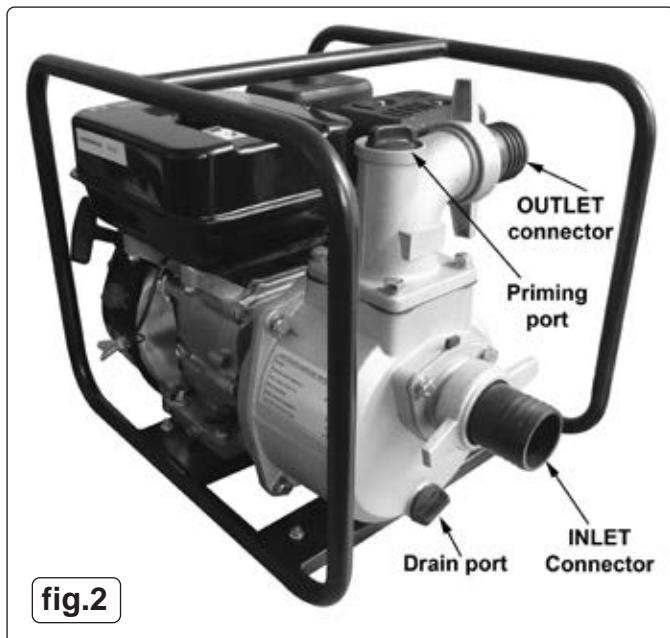

fig.2
##### 4.1 ASSEMBLE CONNECTORS ONTO PUMP (See fig.2)
- 4.1.3 Screw one connector assembly onto the pump inlet as shown above in fig.2. Screw the other assembly onto the pump outlet as shown above and hand tighten both.
- 4.2.7 **IMPORTANT! Unscrew the cap from the priming port at the top of the pump and fill the chamber with water. (See fig.2) Replace the cap.**
- 6.1 **WINTER STORAGE:** To prevent ice damage to the pump during winter storage drain water out of the pump by removing the stopper from the drain port seen in fig.2. Replace the stopper when all water has drained out.